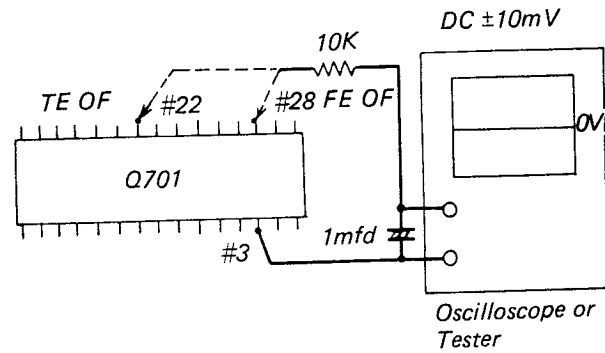

Figure 42
1. Connect oscilloscope to Q701 SERVO IC. (Figure 42)
2. Connect filter circuit shown in Figure 42 across Q701 and oscilloscope.